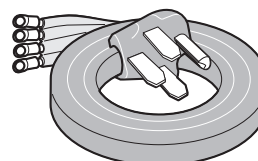

Fig. 20
- Power cord (40/50 ampere rated Cord Kit - **48" MAXIMUM LENGTH** - Fig. 20).